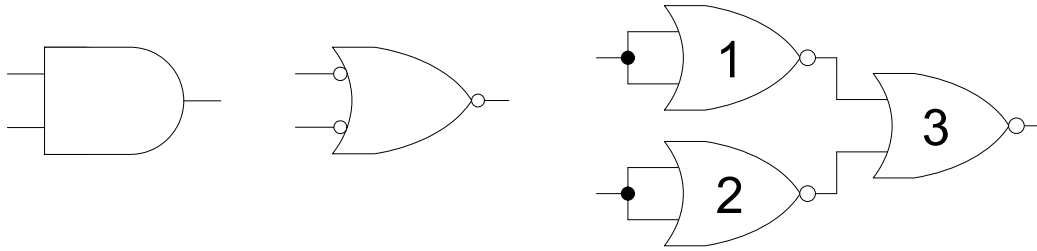
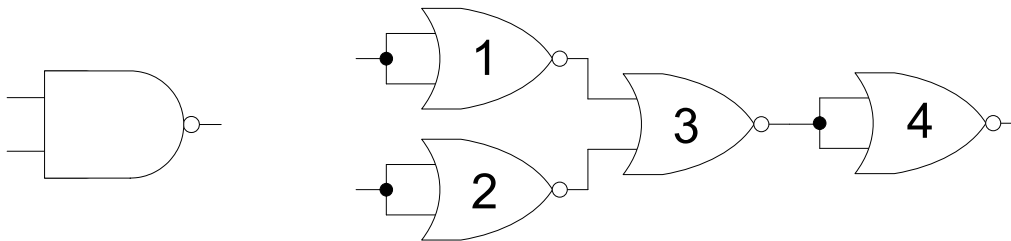

Figure 6.3 Implementing an OR Gate using three NOR gates
Figure 6.4 Implementing a NAND Gate using four NOR gates
implemented using two NOR gates. If the two bubbles are removed from the two inputs, the OR gate with the bubble at the output represents a NOR gate (3). Figure 6.3
The AND gate implementation using three NOR gates is shown in figure 6.3. A NAND gate implementation requires addition of an inverter (NOT) gate at the output. The NOT gate is implemented using a NOR gate. Figure 6.4. NOR gates 1, 2 and 3 implement the AND gate. NOR gate 4 implements the NOT gate connected at the output of the NAND gate.